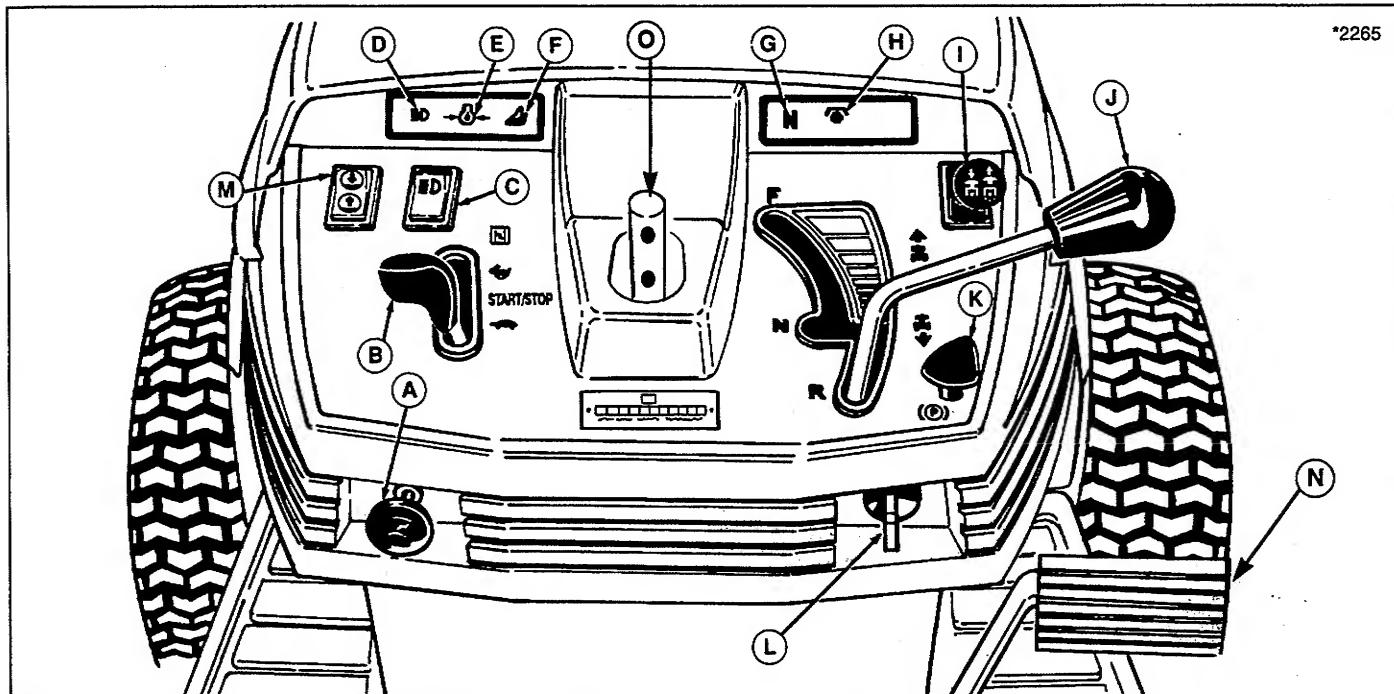
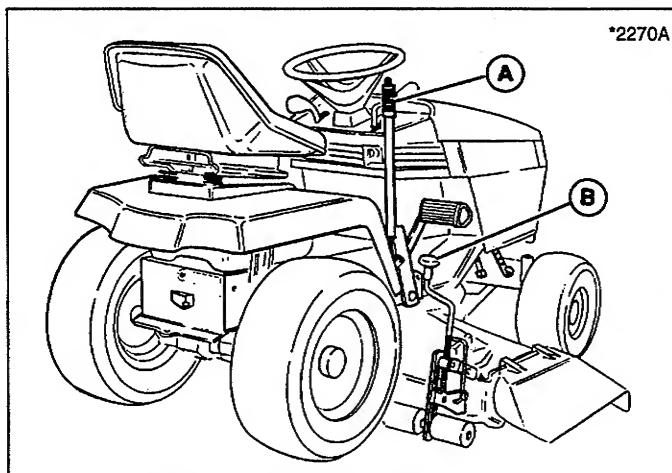
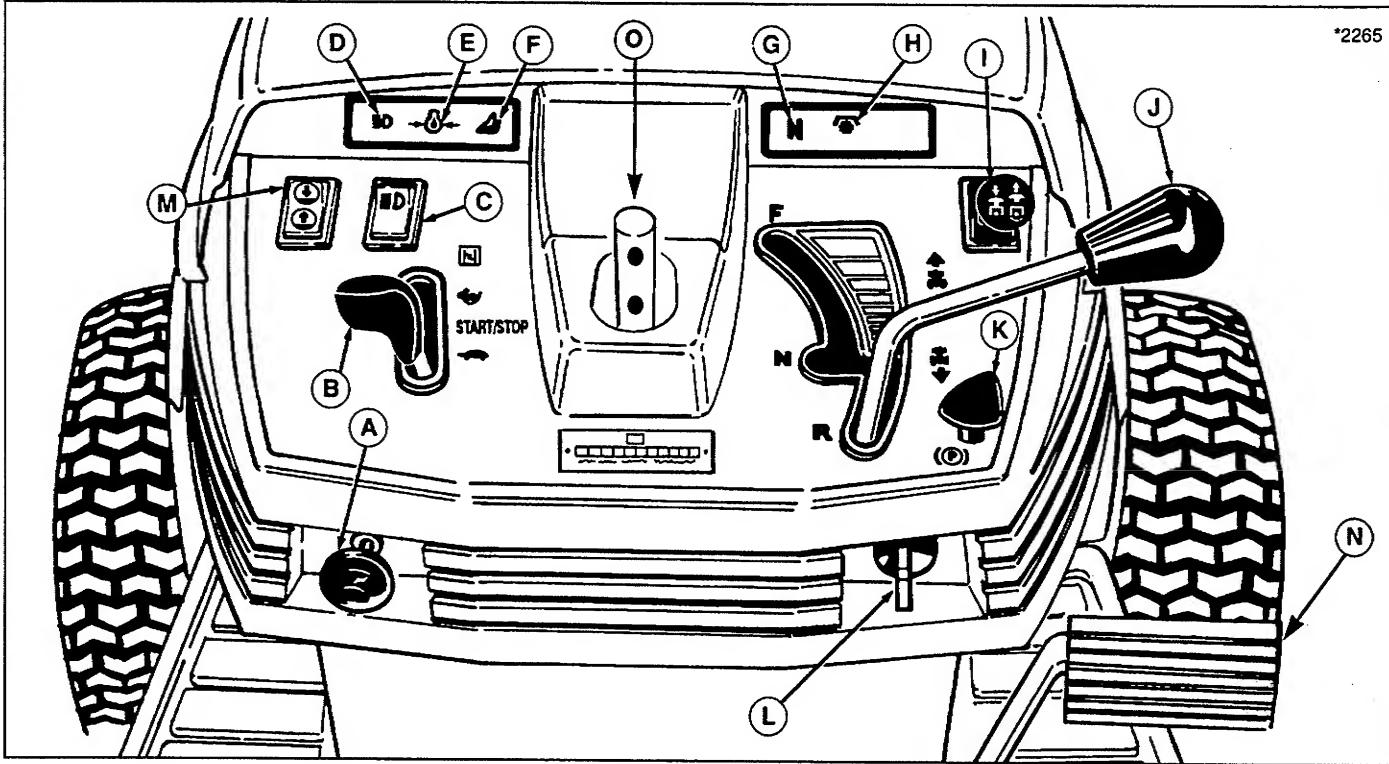

Figure 2. Tractor Controls (Hydro Model Shown)
Figure 10. Mower Operation - Manual Lift
Figure 13. Tractor Controls (Hydro Model Shown)
2. Place mower in the lowest cutting position using the mower height adjuster (B, figure 10). Place the mower lift lever (M, figure 2 or A, figure 10) in the lowest position, also. Slide mower deck under right side of tractor so that mower hitch is aligned with front tractor hitch.
2. Place mower in the lowest cutting position using the mower height adjuster (B, figure 10).
3. Place the mower lift lever (A, figure 10 or M, figure 13) in the lowest position.
1. When traveling to or from the work site, fully raise the mower using the mower lift lever (A, figure 10 or M, figure 13). At the work site, lower mower using the lift lever.
2. Use the mower height adjuster (B, figure 10) to set the proper mowing height. See Mowing Patterns & Tips section for cutting height recommendations.
Refer to figure 13.
On hydro models, ground speed is infinitely variable according to how far the control lever (J, figure 13) is moved in the forward or reverse position.
On gear models, ground speed is selected by depressing the clutch pedal and moving the control lever (J, figure 13) to the appropriate gear selection.
1. If you are ready to mow, lower the mower from the transport position using mower lift lever (A, figure 11 or M, figure 13) and set the mowing height using the
2. Set the engine speed control lever (B, figure 13) for full speed.
3. Use the PTO switch (I) to engage the PTO.
4. Release the parking brake by depressing brake pedal (N, figure 13) and pushing knob (K) down.
5. On hydro models, move the ground speed control lever (J, figure 13) to the desired direction and speed of travel to set the tractor in motion.
6. Adjust engine speed control lever (B, figure 13) to the desired speed. Between 3/4 and full speed is recommended for mowing.
1. On hydro models, move the ground speed control lever (J, figure 13) into the NEUTRAL position to make a gradual stop. To make a more rapid stop, depress the clutch/brake pedal (N, figure 13).
On gear models, press the clutch pedal (N, figure 13) down to disengage the clutch for a gradual stop. For a more rapid stop, press the brake pedal down to apply the brake while also depressing clutch pedal to disengage the PTO. Move the ground speed control lever to NEUTRAL before releasing the pedals.
2. Engage the parking brake by fully depressing brake pedal and pulling up on parking brake knob (K, figure 13).
3. Use the PTO switch (I, figure 13) to disengage the PTO.
4. Set the engine speed control lever (B, figure 13) to 1/2 throttle setting and allow the engine to idle for 20 seconds. Stopping a hot engine too fast may cause engine damage.
5. Turn key (L, figure 13) to OFF and remove it.
1. With engine off and key removed, use the PTO switch (I, figure 13) to disengage the PTO.
2. Place the mower in the transport position (up) using the mower lift lever (A, figure 10 or M, figure 13).
3. Place the ground speed control lever (J, figure 13) in the neutral position.